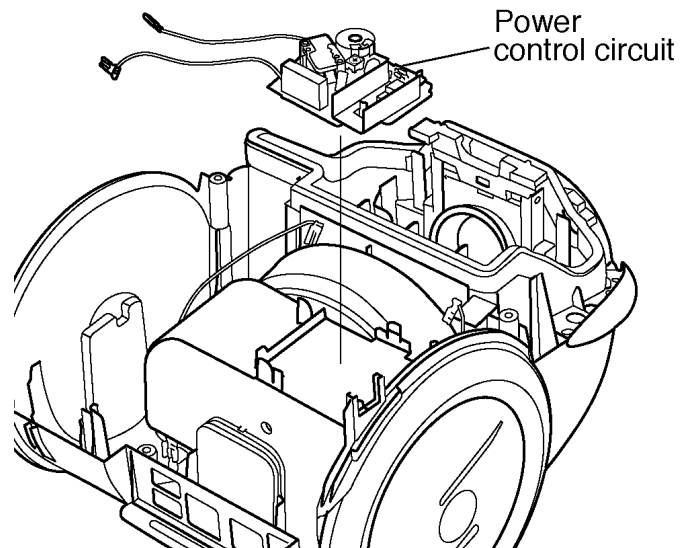

fig.13
4. Remove power control circuit from its fastening points and replace with a new one. (Fig. 13)